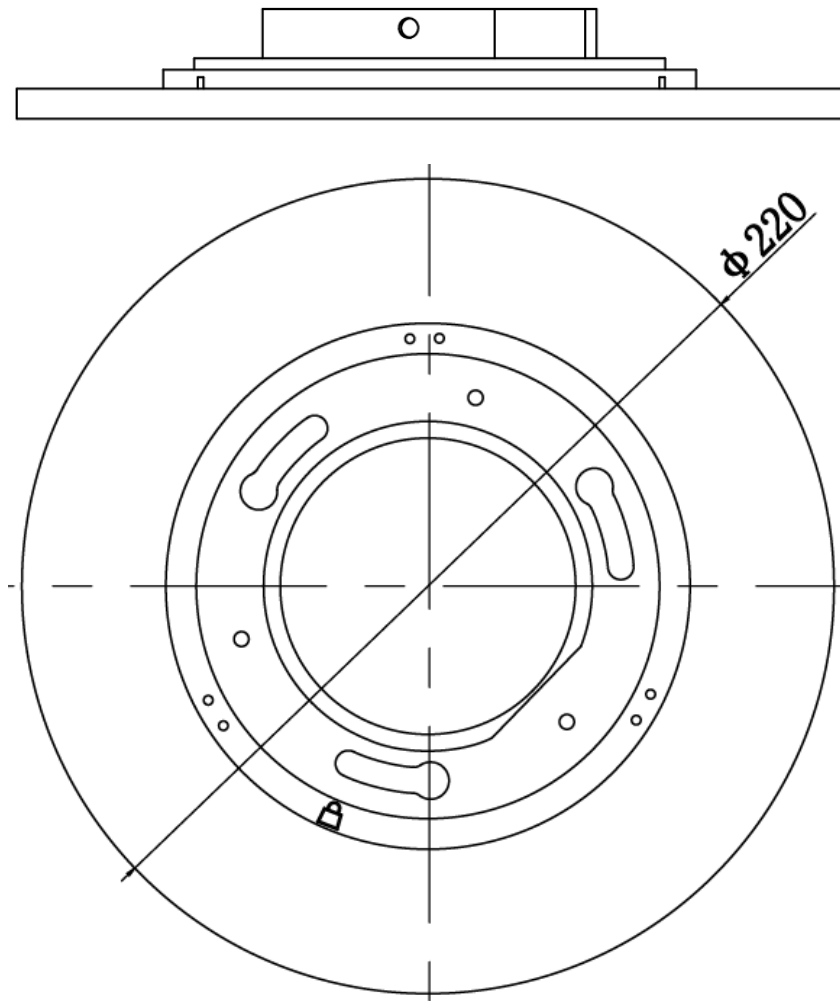

Figure 14
1.Dimension as Figure 14 shows.